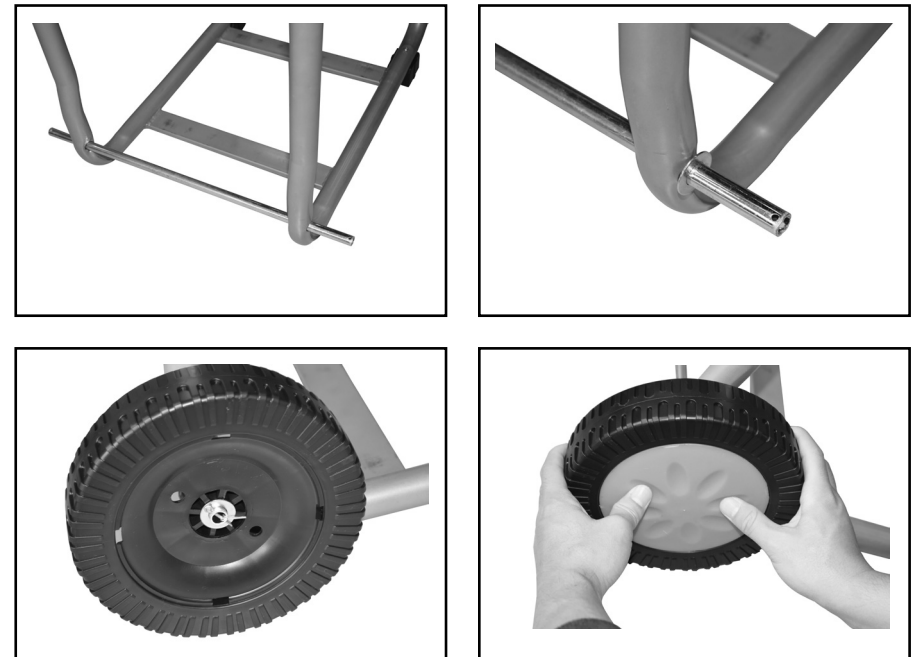

Fig. 6
4. Mount wheels to the base frame using the wheel shaft, four flat washers, two stop pins. Assemble wheel cap by pushing in on by hand (Fig. 6).